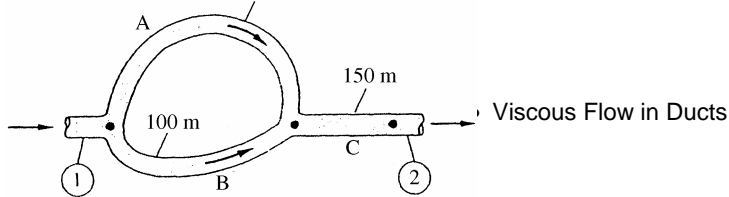

Fig. P6.116
6.116 For the series-parallel system of Fig. P6.116, all pipes are 8-cm-diameter asphalted cast iron. If the total pressure drop $p_1 - p_2 = 750$ kPa, find the resulting flow rate Q m^3/h for water at 20°C . Neglect minor losses.